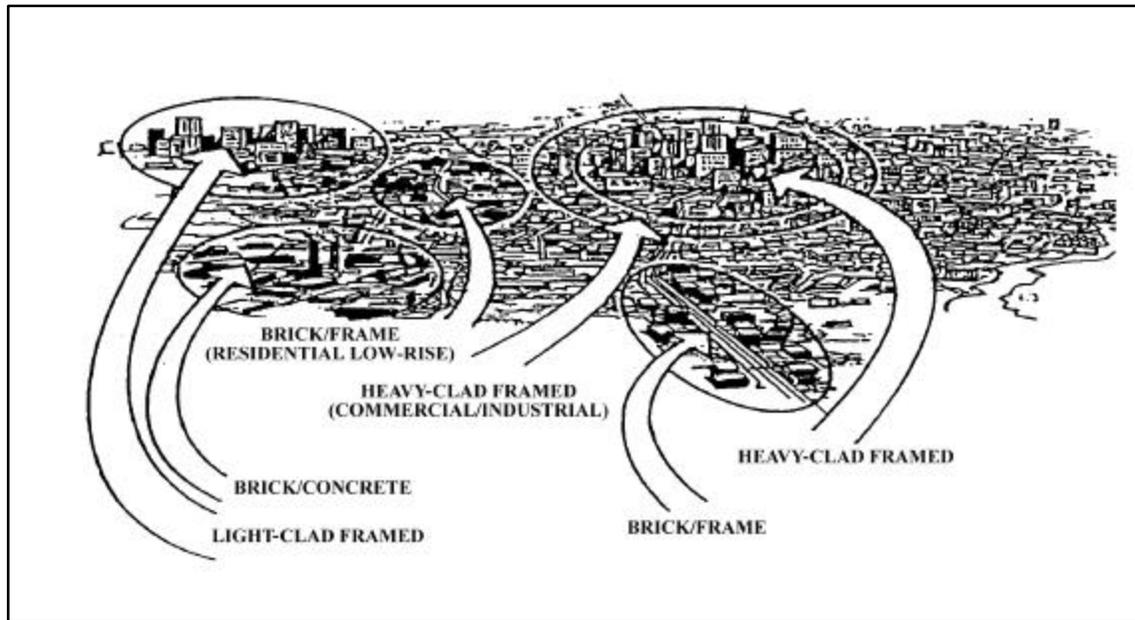

Figure I-21. Distribution of Building Types
6. Distribution of Building Types. Certain types of buildings dominate certain parts of a city; this establishes patterns within a city. Analysis of the distribution and nature of these patterns has a direct bearing on military planning and weapon selection (Figure I-21).